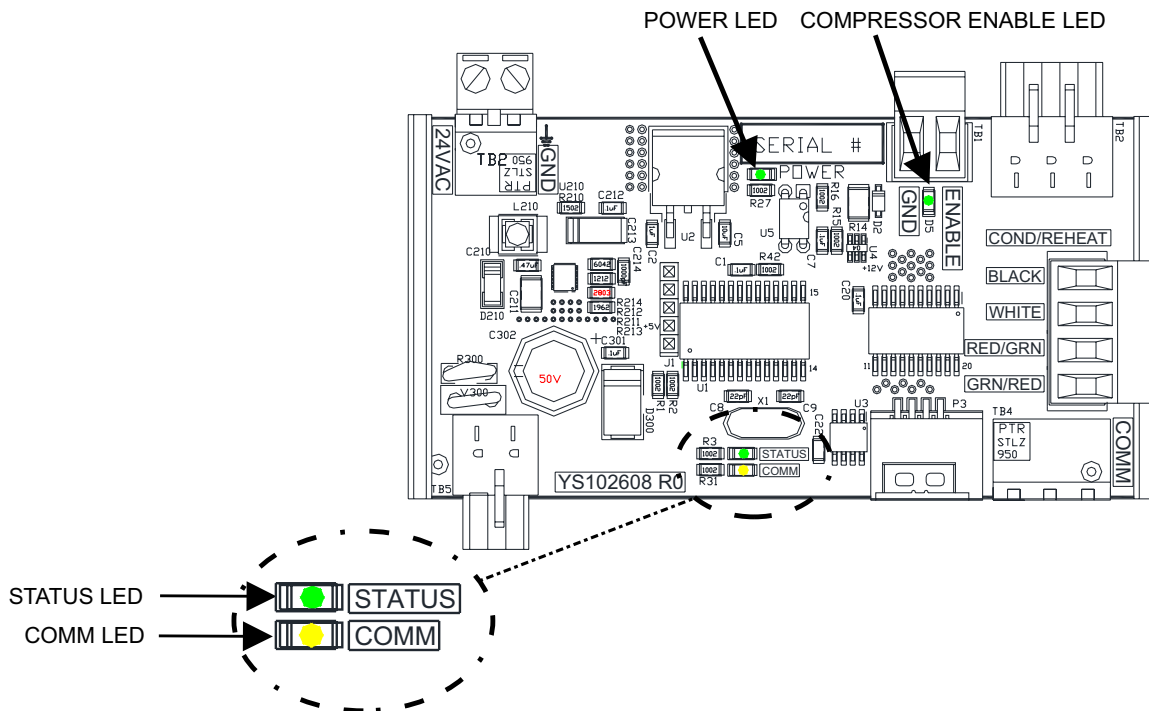

Figure 11: Reheat Expansion Module LEDs
See **Figure 11, this page** for the LED locations. The LEDs associated with these inputs and outputs allow you to see what is active without using a voltmeter. The LEDs and their uses are as follows:
- **STATUS:** This green LED will light up and blink every 10 seconds according to valve position. One blink per 10%. Example: valve position is 67%. STATUS LED will blink six times every 10 second cycle. The STATUS LED will stay on solid during the two-minute flush cycle. See **Figure 11, this page**.